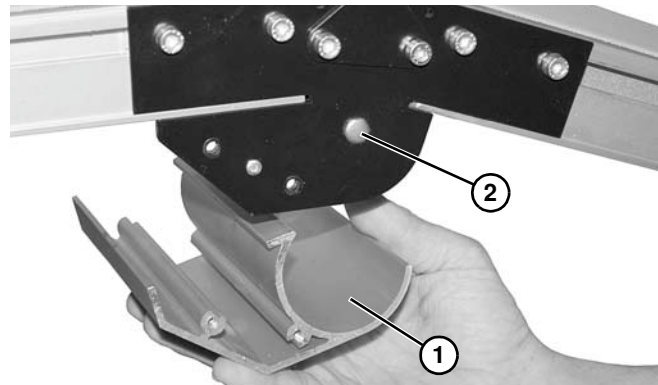

Figure 62
2. Remove guard (**Figure 62, item 1**).